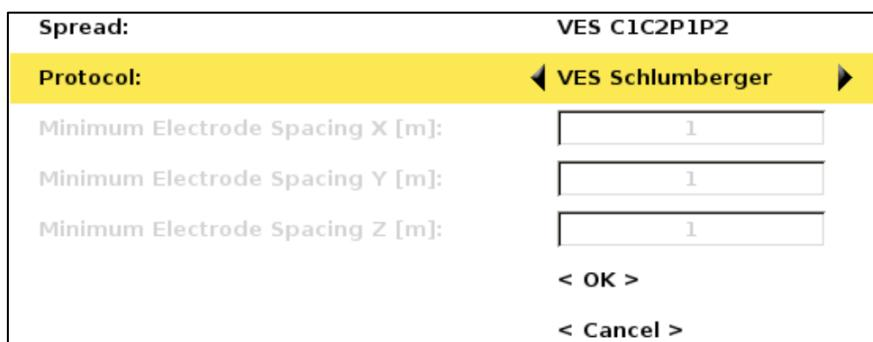

Figure 21 Create new task dialog
- Press <OK> and the Create New Task dialog will be shown (Figure 21)